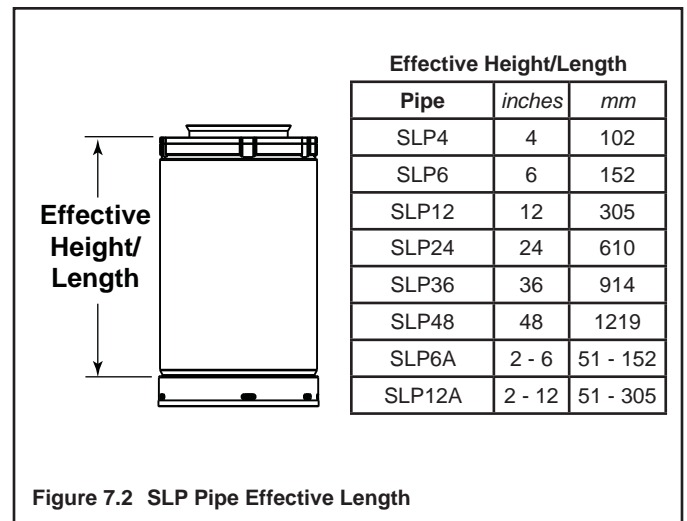
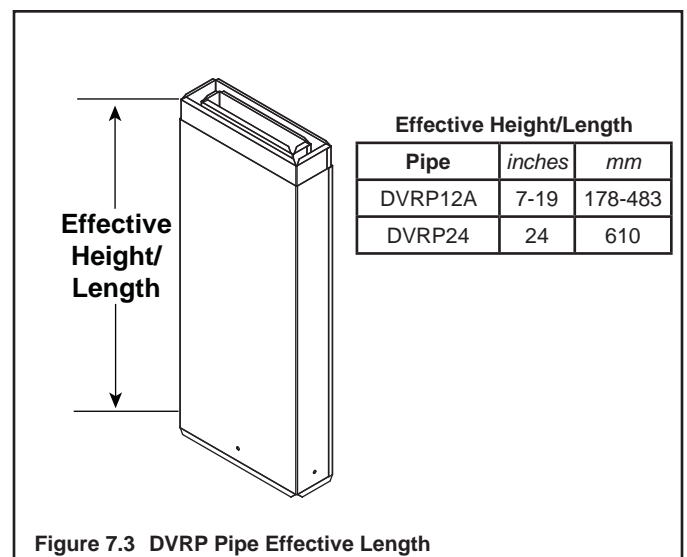

Figure 7.2 SLP Pipe Effective Length
Figure 7.3 DVRP Pipe Effective Length
- Pipe measurements are shown using the effective length of pipe. See Figure 7.2 and Figure 7.3.